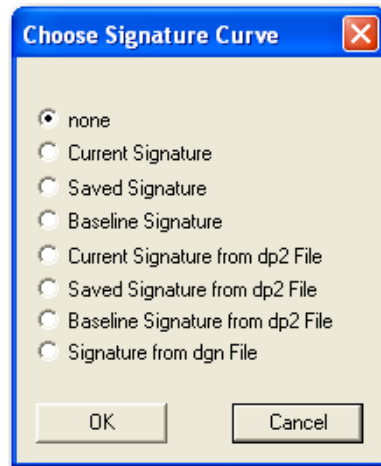

Figure 113 Choose Signature Curve
2. Click **Select Curve** and a dialog containing a list of signature locations appears (Figure 113).